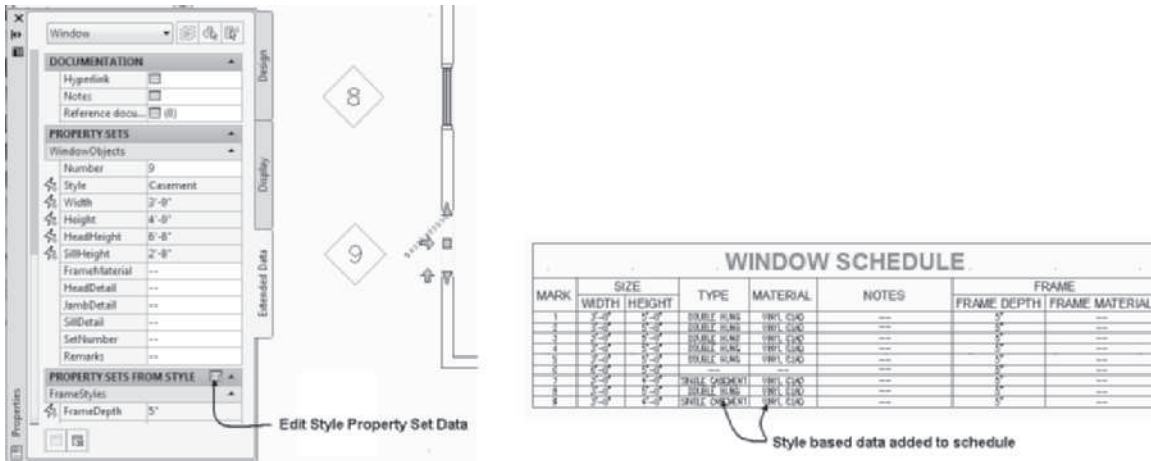

FIGURE 11.65 Window Type and Material data entered in the schedule from style-based properties
16. Double-click the window tagged number **9** to open the **Properties palette**. Choose the **Extended Data** tab. Choose the **Edit Style Property Set Data** button. Scroll down to the Window Styles property set and type **SINGLE CASEMENT** in the **Type** field and type **VINYL CLAD** in the **Material** field. Click **OK** to dismiss the **Edit Property Set Data** dialog box. Press ESC to end selection. Type and material data are added to the schedule as shown in Figure 11.65.